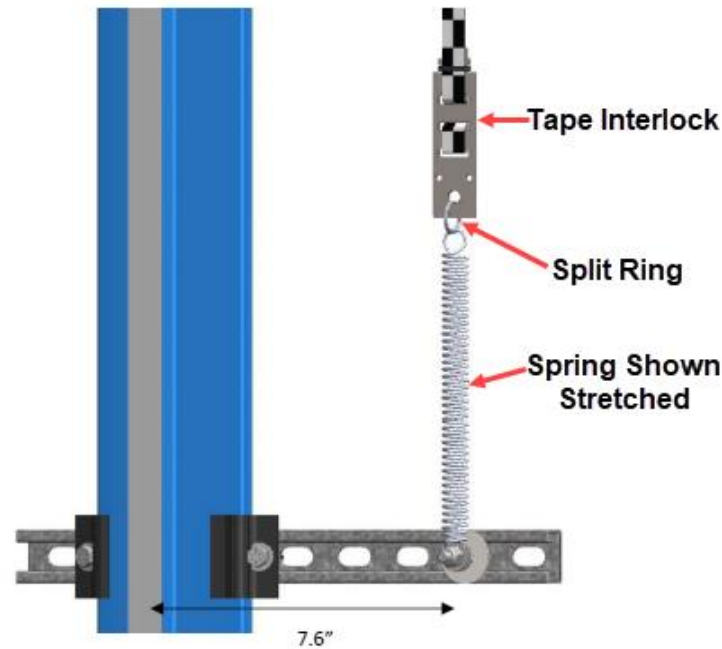

Figure 173: Lower Tape Mount Assembly
3. Position the Lower Tape Mount Assembly 7.6" from the surface of the guide rail to the center of the 3/8" bolt (See Figure 173).
6. Connect the spring to the tape interlock bracket using the split ring (See Figure 173).